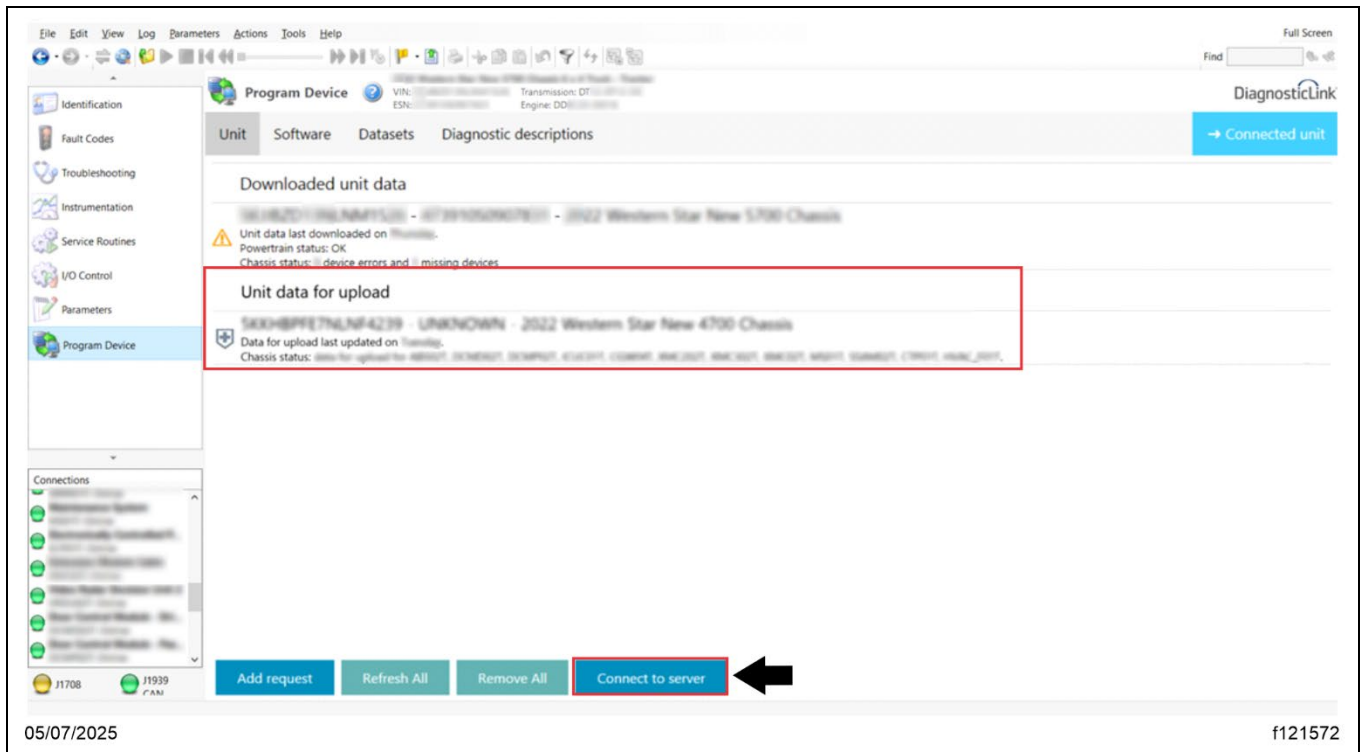

Fig. 4, Unit Data Upload to the Server
- The information corresponding to the VIN should appear under the 'Unit data for upload.' Select 'Connect to server' to upload the new parameters. See Fig. 4.